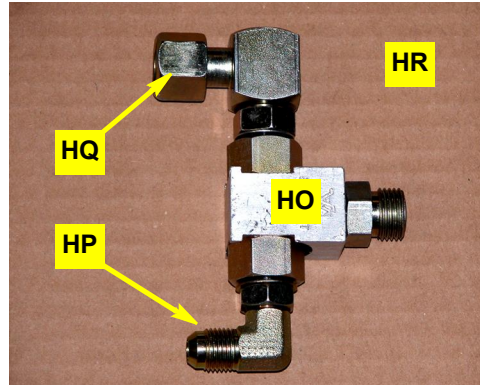

Figure 5a: Prepared load sense shuttle valve
- a. Assemble load sense shuttle valve **HO** as follows (Figure 5a):